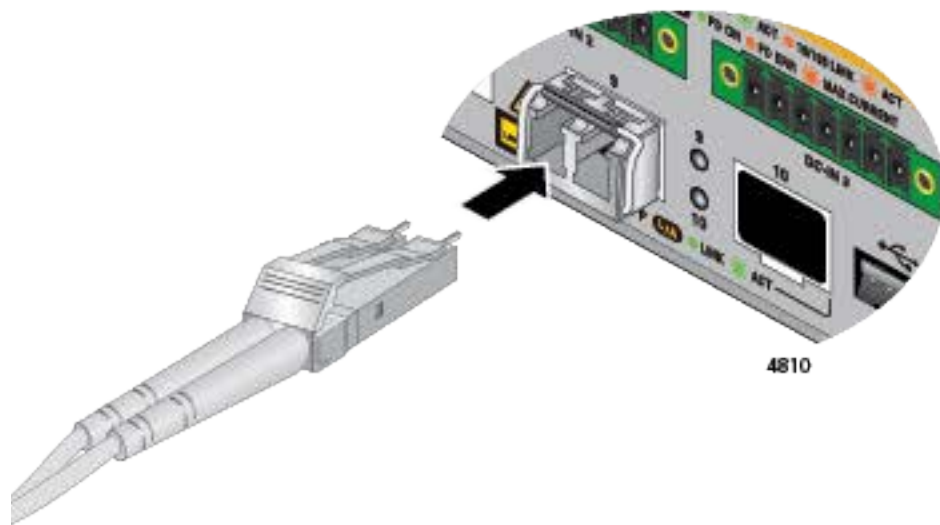

Figure 61. Connecting a Fiber Optic Cable to an SFP Transceiver
6. Connect the fiber optic cable to the transceiver, as shown in Figure 61. The connector on the cable should fit snugly into the port, and the tab should lock the connector into place.